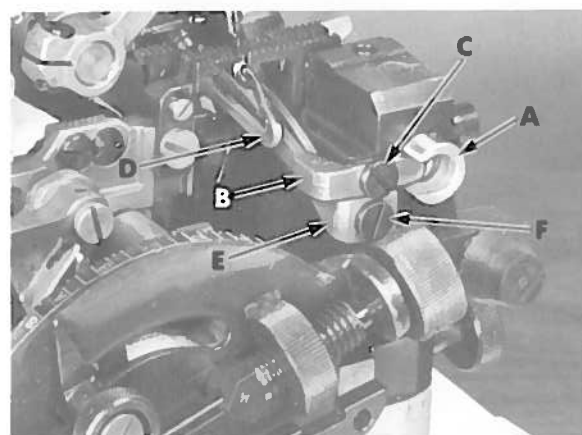

Fig. 9
Remove spring from inside of lower knife holder (A, Fig. 9), then reassemble knife holder into throat plate support block. Replace rear needle guard (B) using screw (C) with front edge of guard centered in slot of knife holder as shown. Temporarily tighten screw (C) to hold guard in position, yet allowing guard to be adjusted. Rotate handwheel in operating direction until lower looper (D) travels from extreme left into scarf of needle(s). Set guarding SURFACE of needle guard (B) as low as possible to prevent it from interfering with needle thread as loop is being formed to rear of needle(s), then tighten screw (C) securely. Guard must NOT interfere with lower knife holder movement or come in contact with lower looper at any point of travel.
Replace front needle guard (E, Fig. 9) using screw (F). Temporarily tighten screw (F) to hold guard in position, yet allowing guard to be adjusted. Rotate handwheel in operating direction until needle(s) is at lowest position. Set guarding SURFACE of needle guard (E) to needle(s) with minimum clearance - approximately .004 inch (.10mm) and tighten screw (F) securely. Check to ensure needle(s) is NOT being pinched between front and rear needle guards.